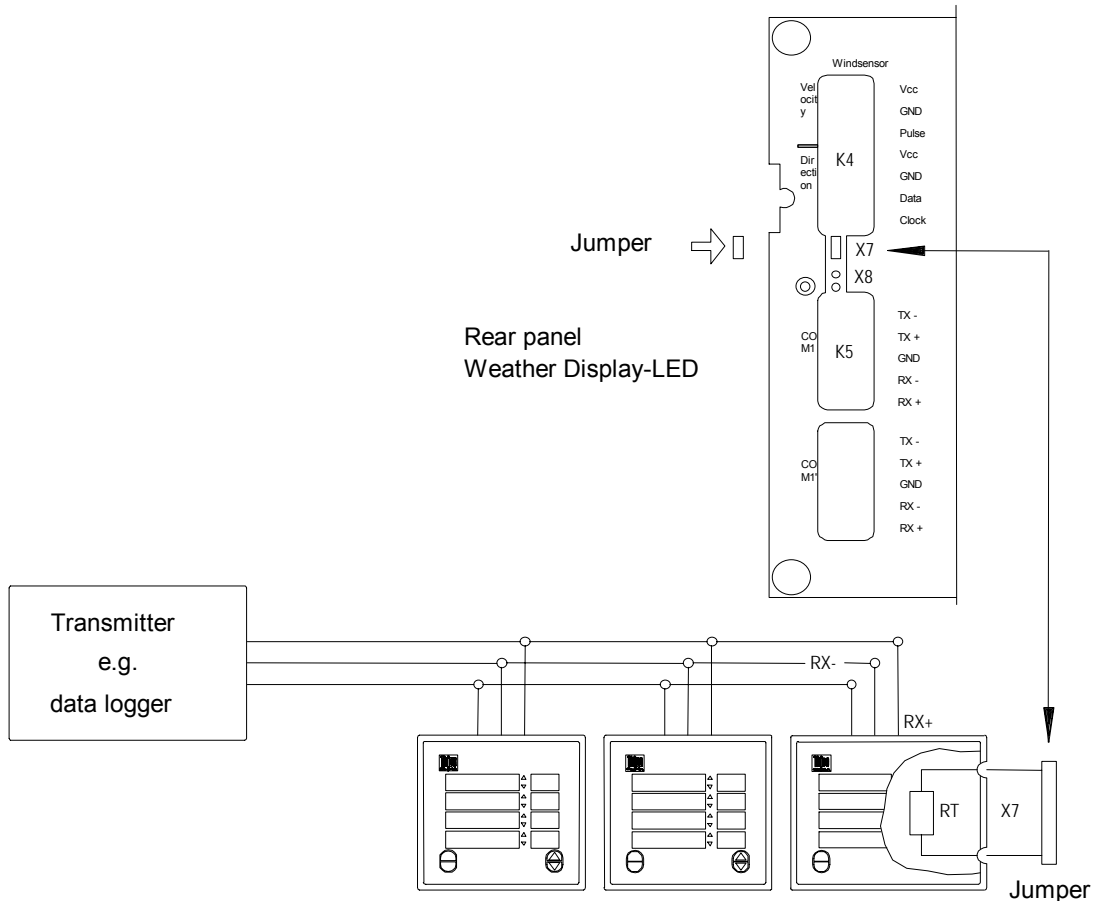

Fig. 3: Example of connection
For termination with long cables the rear of the display has contact pins (X7), which can be bridged externally with a jumper if required (see Fig. 3).
- The integrated termination resistor ($RT=200\Omega$) has to be activated with the use of a jumper (X7) at the receiver (slaves)(see Fig. 3.).